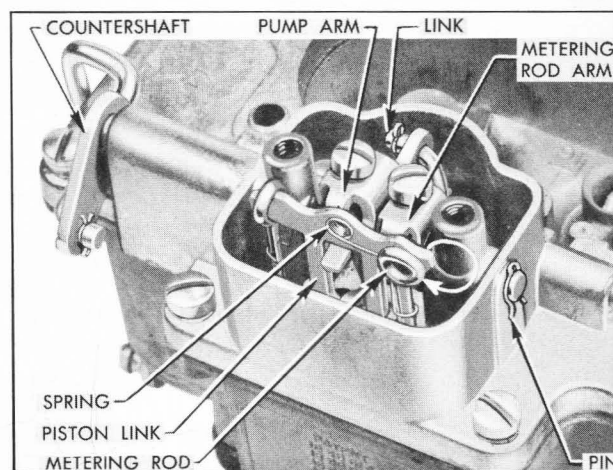

Figure 3-44—Removal of Metering Rod and Operating Parts
6. Rotate eyes of metering rods off pins on vacuumer piston link and lift rods out, using care to avoid bending them. Remove metering rod spring from link to avoid damaging it in later operations. See figure 3-44.
7. Remove throttle connector rod and pump arm link. Loosen screws in metering rod and pump arms, remove spring pin from end of countershaft, and remove shaft. Lift out metering rod and pump arms. See figure 3-44.